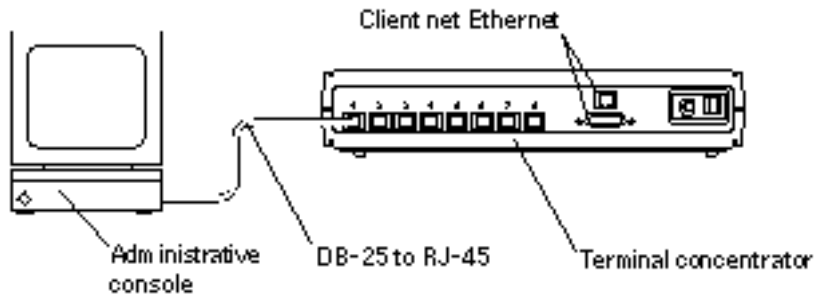

Figure 2-5 Connecting the Administrative Console
1. **Connect the serial cable (530-2152-01 or 530-2151-01) from serial port A on the administrative console to serial port 1 on the terminal concentrator, as shown in Figure 2-5.**